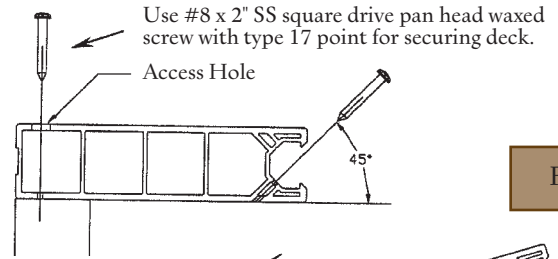

Fig. 2
Step 2 Cut deck plank to desired length. Drill an access hole through the top surface only. (Starter plank only.) Screw the bottom to the joist through the access hole. (Fig. 2) **Be sure to start this plank straight! Do not over tighten screws. Set torque on screw gun properly. Use with clutch-type screw gun!**
Step 3 Secure opposing edge of plank to joist as shown, with one screw at the intersection of each stringer. Make sure to start screw tip in the locating groove. Maintain 45-degree angle when driving screws. (Fig. 2)